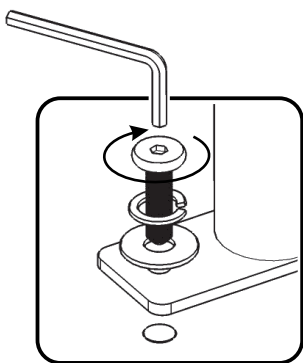

Figure 1
Attach Front Leg (B) to Seat (A) with Flat Washers, Spring Washers, Head Cap Bolts and Flat Head Bolt, tightening bolts only halfway. (See Figures 1 and 2)